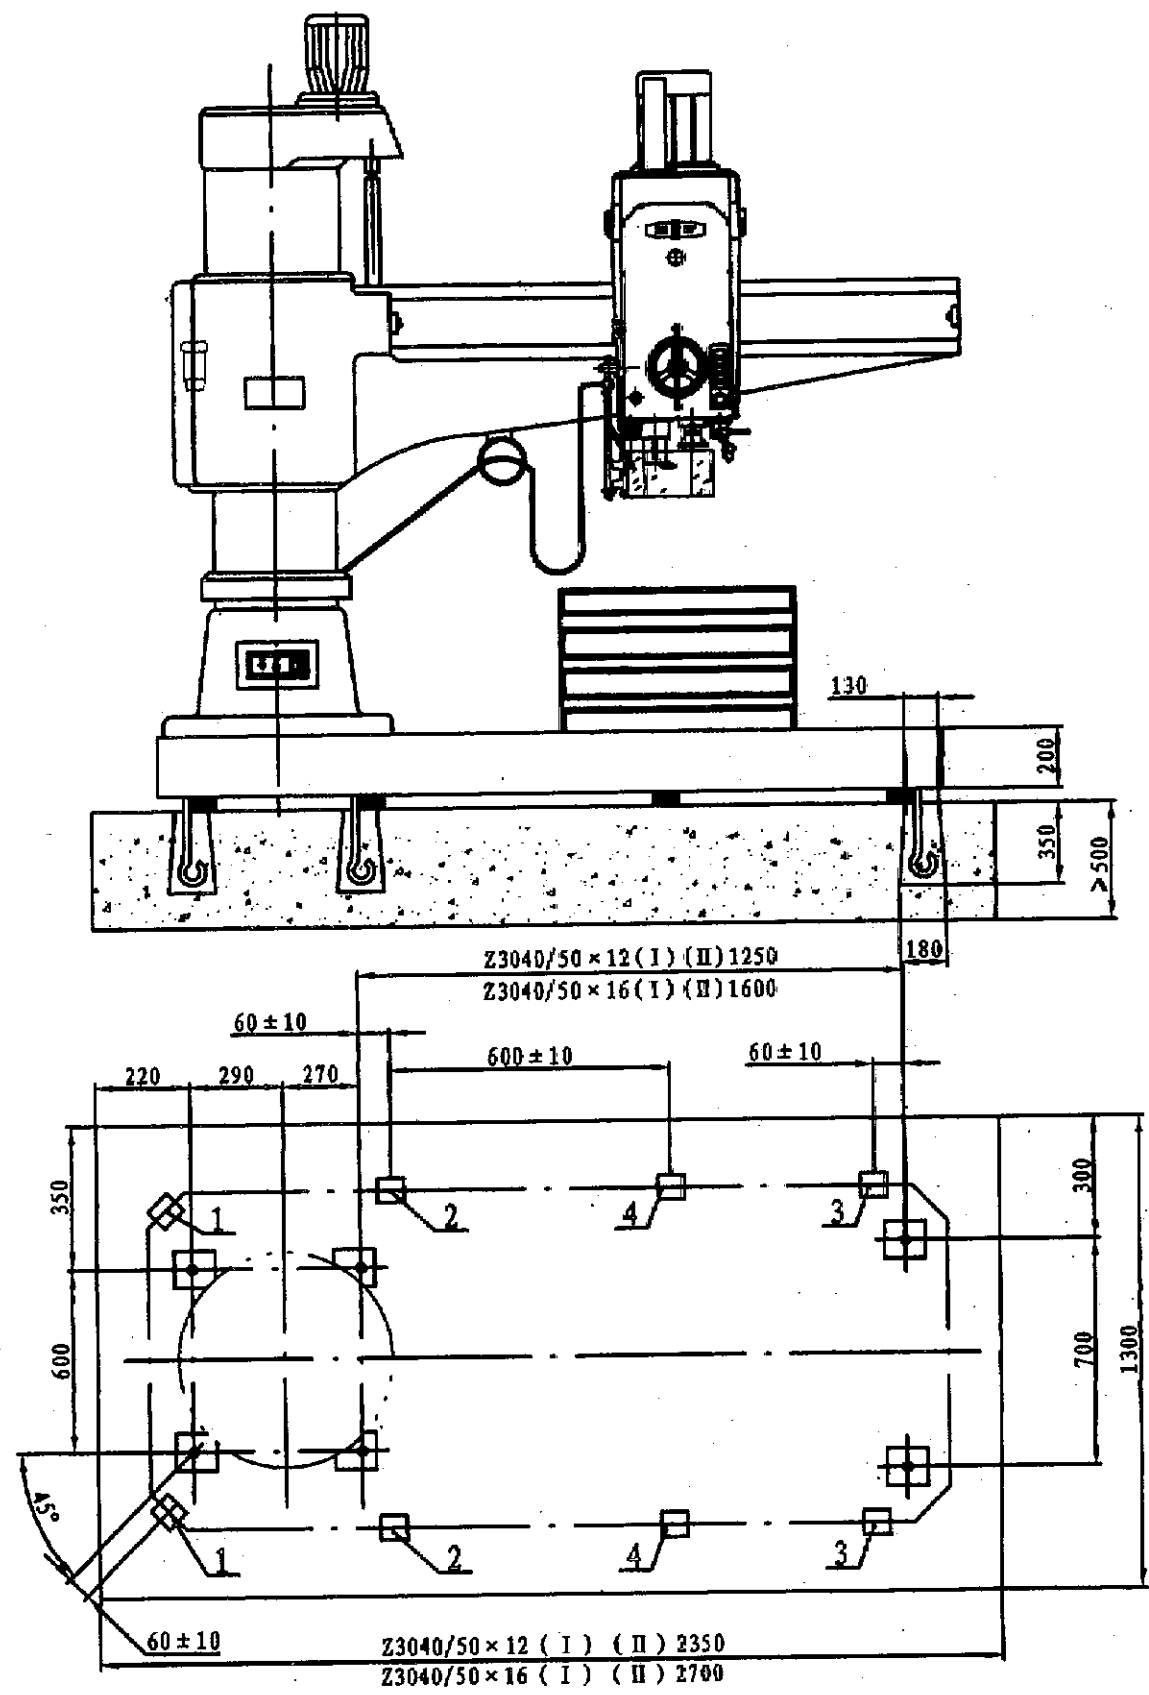
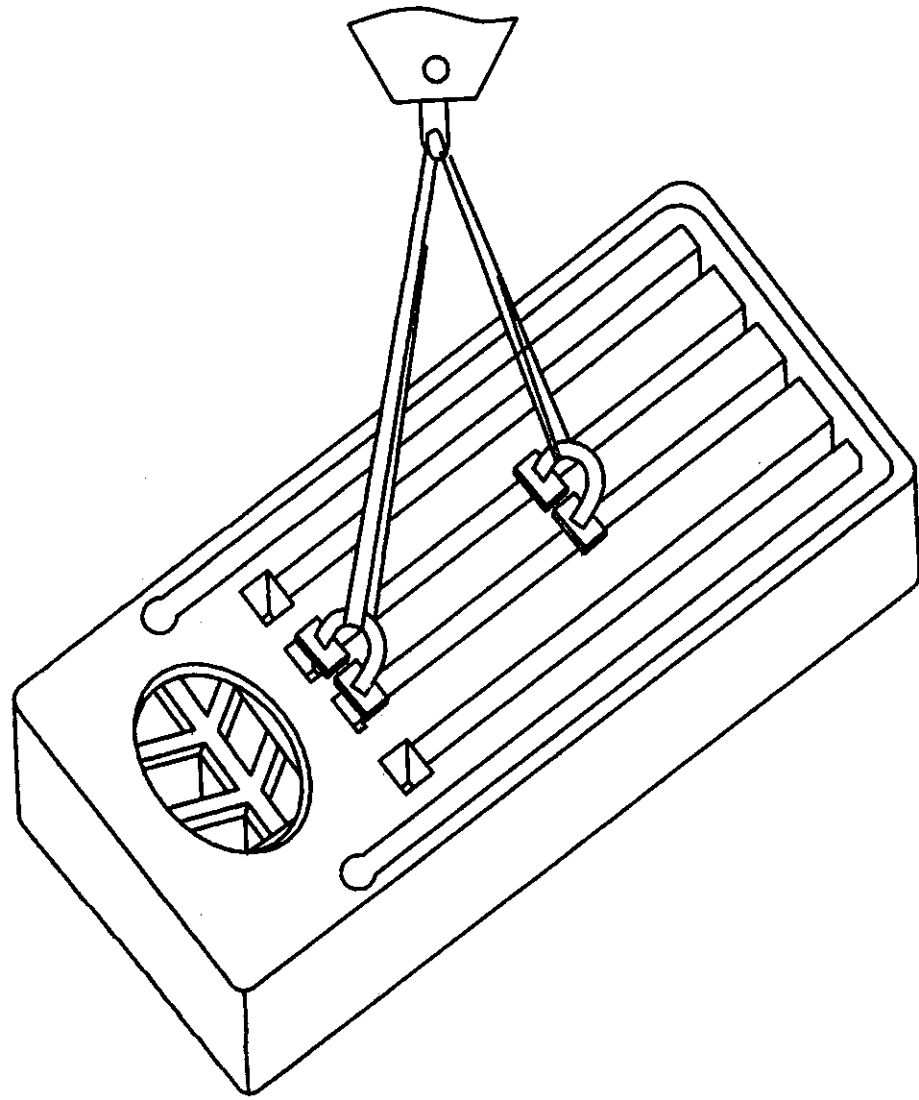

Fig. 2-1 Foundation Plan
Fig. 2.8 Baseplate Handling Diagram
shown in Fig. 2.1, the foundation diagram, the installation level data measured at machine tool base plate both in vertical and horizontal directions are less than or equal to 0.04/1000.
2.4.2 Handling the baseplate as shown in Fig. 2.8, place properly the baseplate and two groups of shim (1-4) as shown in Fig. 2.1, screw the nust of the anchor bolts to prevent the machine tool from tipping over after putting the arm on the column.
2.4.12 Level carefully, the leveling of the shims shall be carried out following 1, 2, 3, 4 shown in Fig. 2.1, the foundation diagram, the installation level data measured at the machine tool base plate both in vertical and horizontal directions are less than or equal to 0.04/1000.